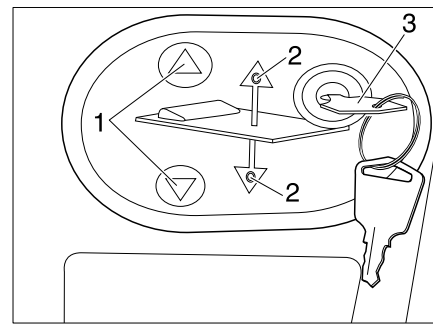

Fig. 162 Operating panel for the electrical pull-down bed
- Insert the key (Fig. 162,3) into the operating panel.
- Press the  or  (Fig. 162,1) button and keep it pressed. The respective LED (Fig. 162,2) lights up and the pull-down bed moves down or up.
- When the desired position has been reached, release the  or  (Fig. 162,1) button again. The respective LED (Fig. 162,2) extinguishes.
- Remove the key (Fig. 162,3).